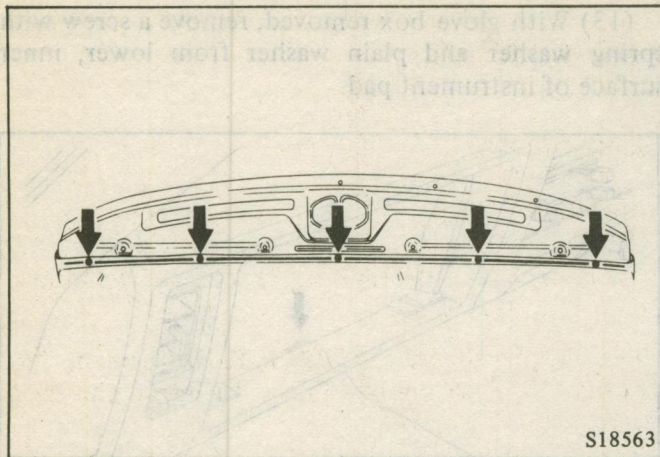

Fig. 90 Removing the Instrument Padding (6)
(15) Remove two screws with spring washers, and plain washers from top of instrument pad at both edges. Also remove three tapping screws with washers inboard of the pad. (Fig. 90)